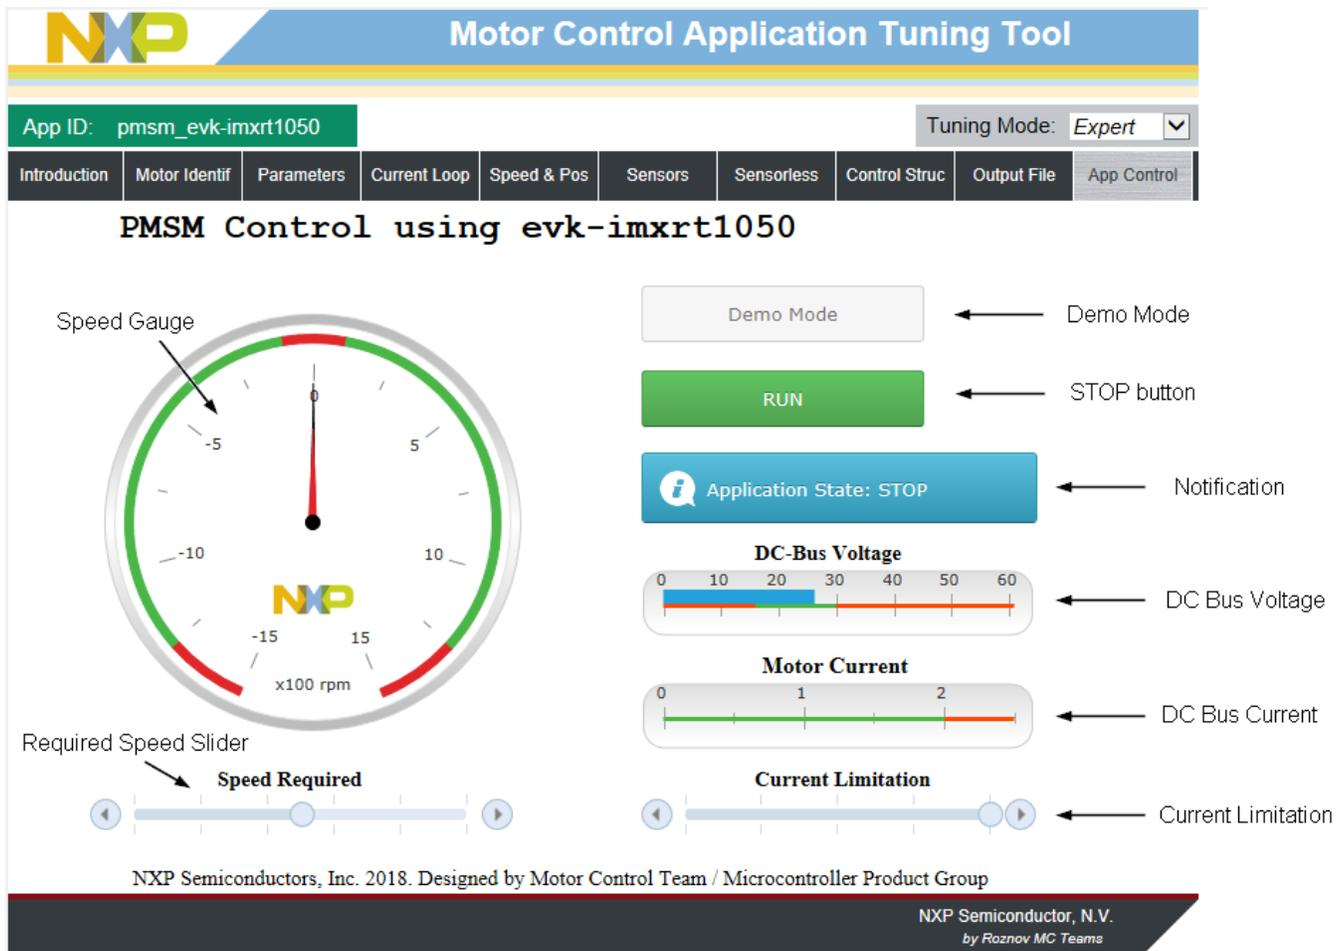

Figure 31. FreeMASTER control page
4. Set the required motor speed using the speed slider, as shown in Figure 31.
1. Click the “STOP” button in the FreeMASTER control page (Figure 31).
To clear the fault, click the fault notification in the control page (Figure 31).